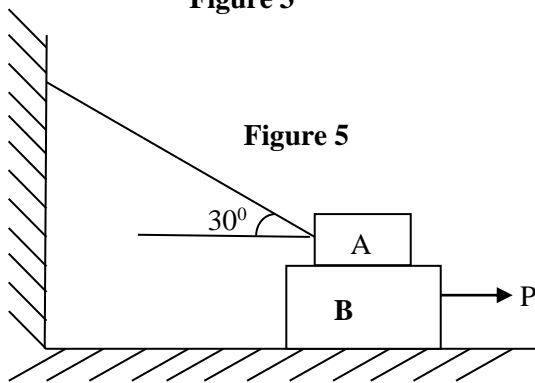

Figure 5
- (c) Find the magnitude of the Horizontal force 'P' applied to the lower block to cause impending motion as shown in **figure 5**. Take $\mu = 0.3$ at all contact surfaces. Weight of block 'A' is 300 N and weight of block 'B' is 1200 N. **07**